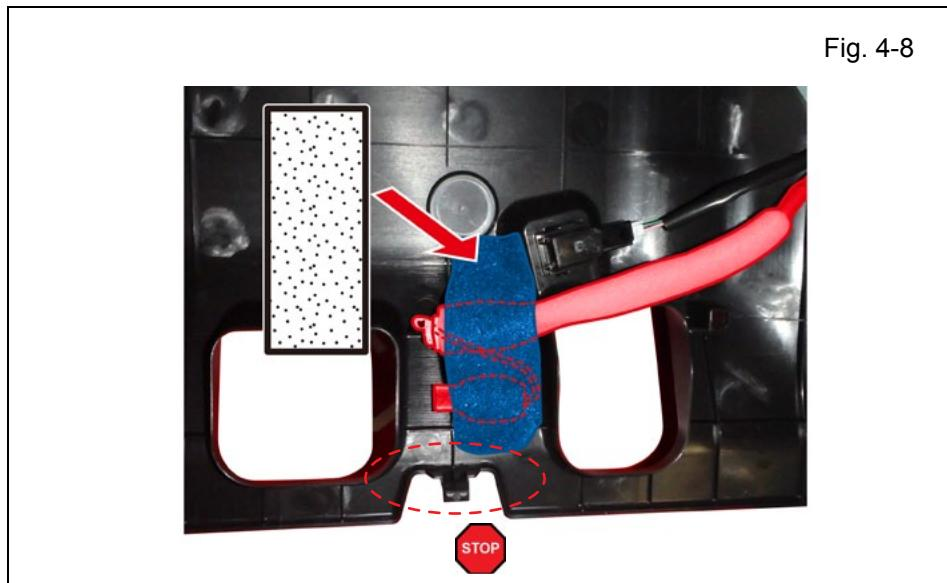

Fig. 4-8
- k. Apply 1 Foam Tape to the GBS Microphone as shown. (Fig. 4-8)
NOTE: Do not cover the Microphone opening with the Foam Tape. (Fig. 4-8)
NOTE: Do not cover the Clip with the Foam Tape. (Fig. 4-8)
- l. Reinstall the Glove Box Under Cover. (Fig. 4-8)